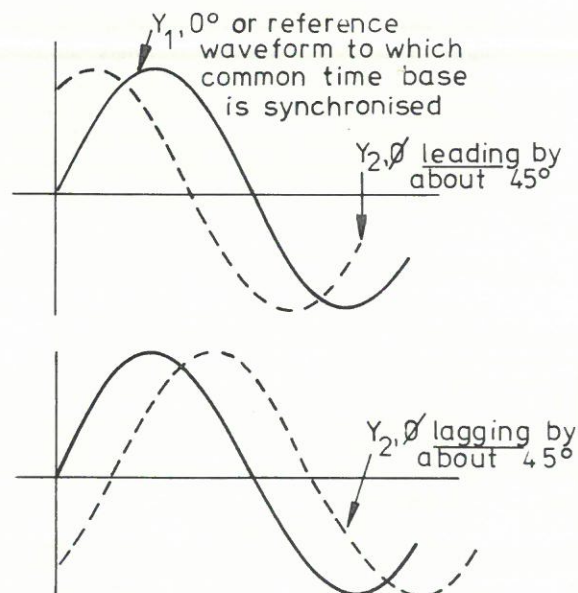

Fig 2.2
1. Using a Time Base where the CRT spot moves in the conventional manner from left to right, the two outputs will be displayed as in fig 2.2.